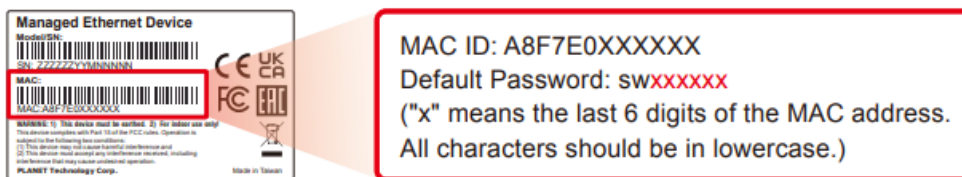
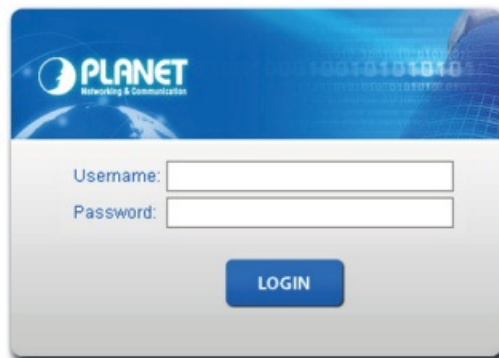

Figure 4-3: MAC ID Label
Figure 5-1: Web Login Screen
2. When the following dialog box in Figure 5-1 appears, please enter the default user name and password Refer to Figure 4-3 to determine your initial login password. Username: admin Password: sw + the last 6 characters of the MAC ID in lowercase